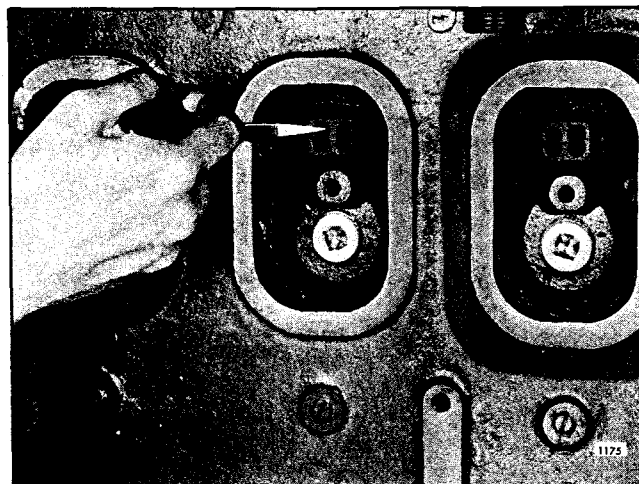

Fig. 3 - Inspecting for Broken Piston Rings Through Cylinder Liner Air Ports
- Piston rings may be stuck or broken. To determine the condition of the rings, remove the air box cover and press on the compression rings (Fig. 3) with a blunt tool. A broken or stuck ring will not have a spring-like action.